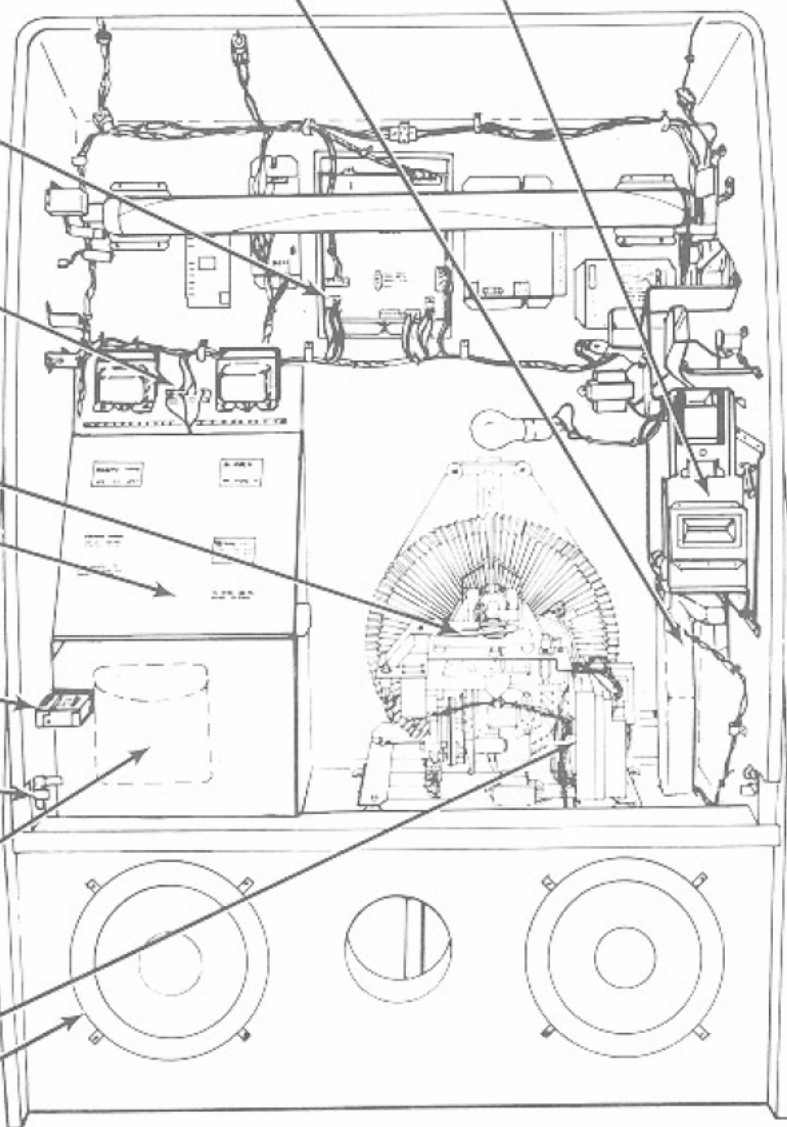

Figure 1-1. CD-100C Major Components
2. Open the front door by pressing down on both front door latches (*see figure 1-1*).
Figure 1-1 shows the major CD-100C Phonograph components. Take a minute to familiarize yourself with these components.